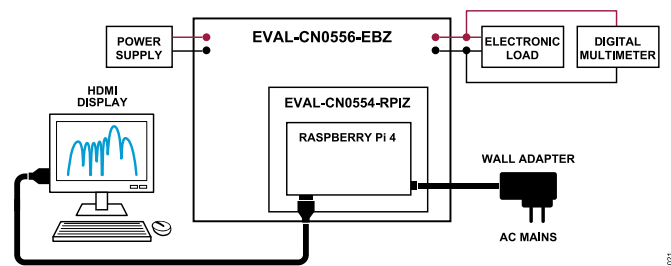

Figure 21. CN0556 Test Setup
3. Connect the CN0556 on top of the CN0554 and Raspberry Pi combination based on Figure 21.